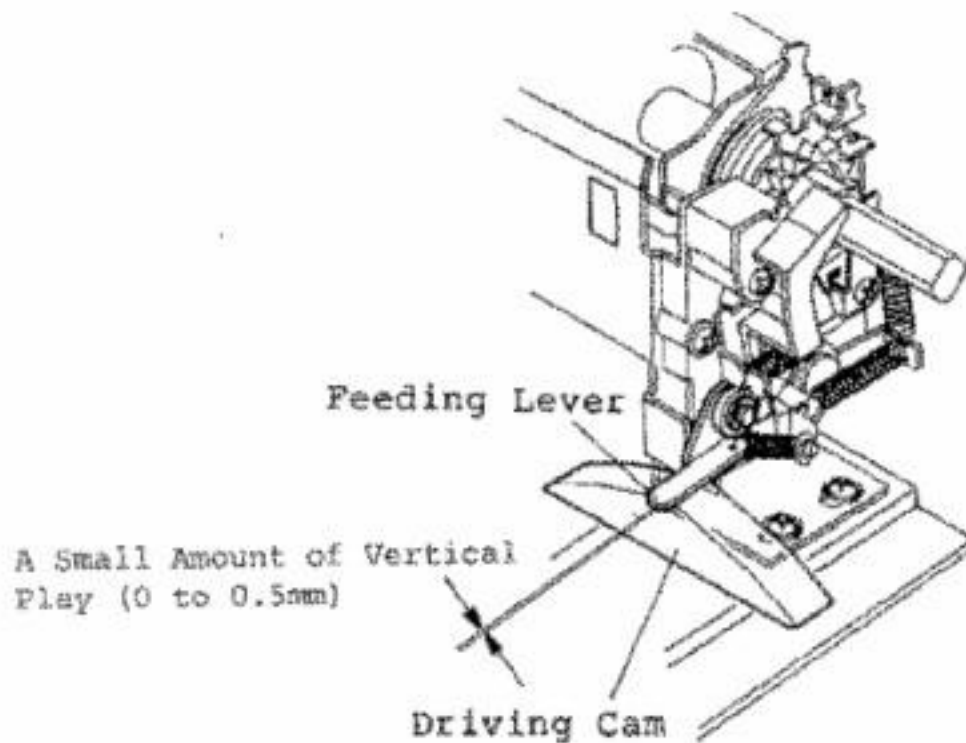

FIG.37
1. Position the Carriage so that Feeding Lever is raised to its uppermost position by Driving Cam on the back of the Carriage as shown in Figure 37. Check to see if the vertical play of Feeding Lever is provided only slightly by pulling it upward with finger. The maximum play must not exceed 0.5mm.